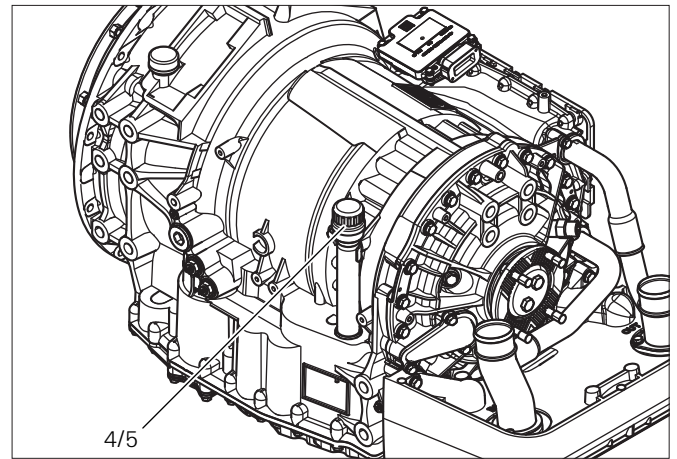

Fig. 1.7 Coaxial transmission
- Fill in oil at oil filler tube (**4**) according to Chapter 1.2 (reference Figs. 1.7 up to 1.9).
- Check oil level at oil dipstick (**5**); refer to Chapter 1.4 (reference Figs. 1.7. up to 1.9).